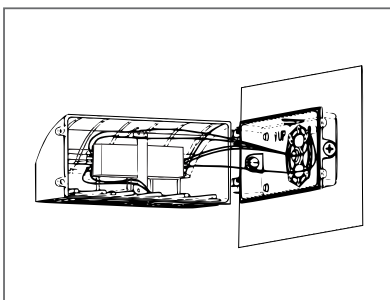

Figure 3
3. Connect input and dimming wires with wires from j-box. (Figure3)